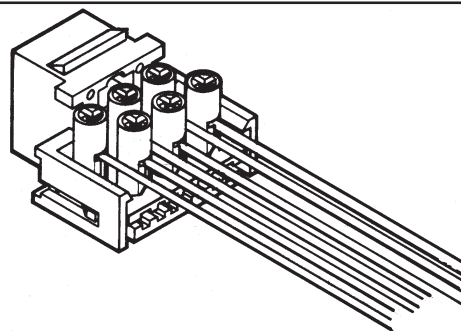

Figure 10
- Terminate each wire by repeating Step 2. Inspect jack assembly to ensure that caps are fully seated and all wires are terminated (Figure 10).